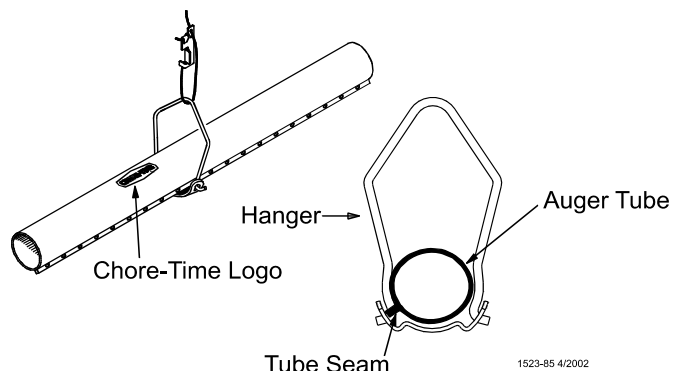

Figure 29. Assembling Feeders on the Tubes
3. To achieve total feed drop out all along the system, the Chore-Time Logo should be centered at the crown of the tubes and all the Hangers should be installed as shown in **Figure 29**.
13. make sure the clamps are located, as shown in **Figure 29**.